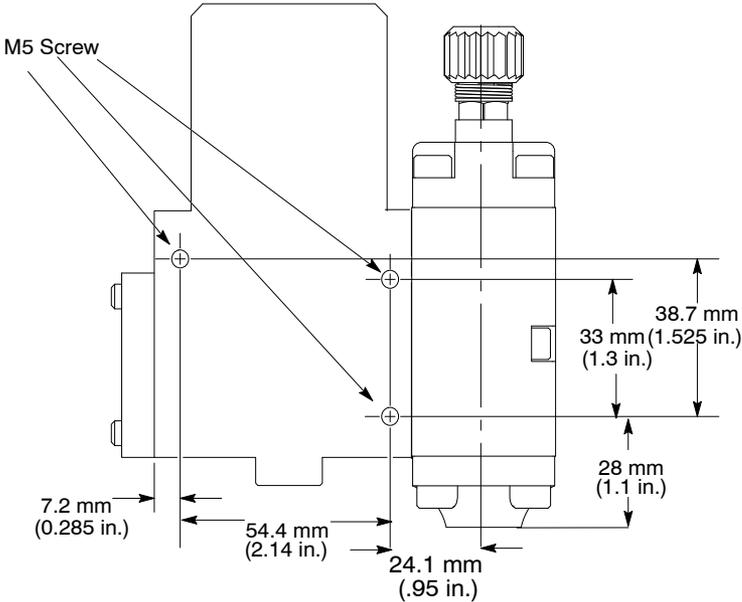

Figure 3: Mounting Dimensions for AG-900+/AG900+S Applicator with Regulator
1. See Figures 3 and . Remove the M5 mounting screws.